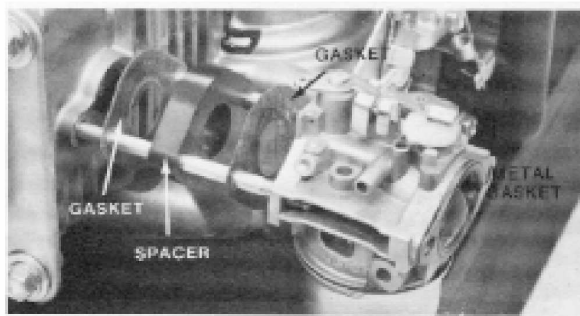

Figure 4-61
6. Mount the carburetor on its mounting studs. See Fig. 4-61.